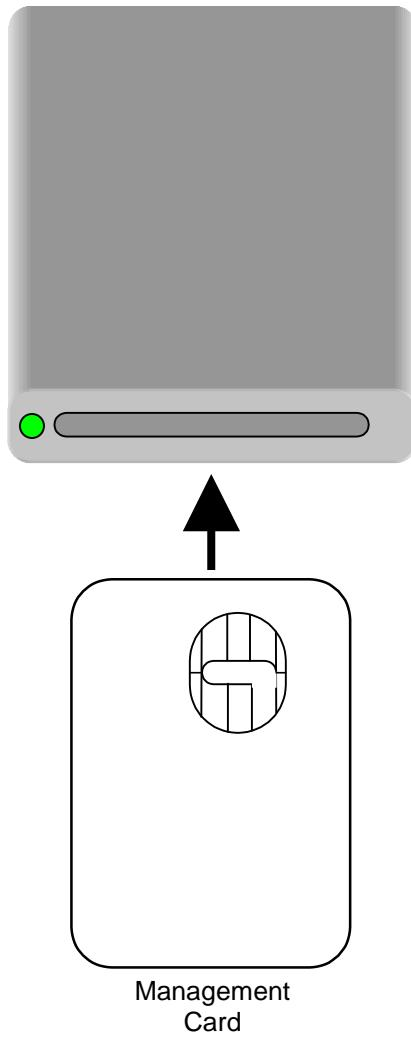

Figure 3.19 Inserting a Management Card into the PC Reader
5. Insert a Management Card into the PC Card Reader (Figure 3.19).